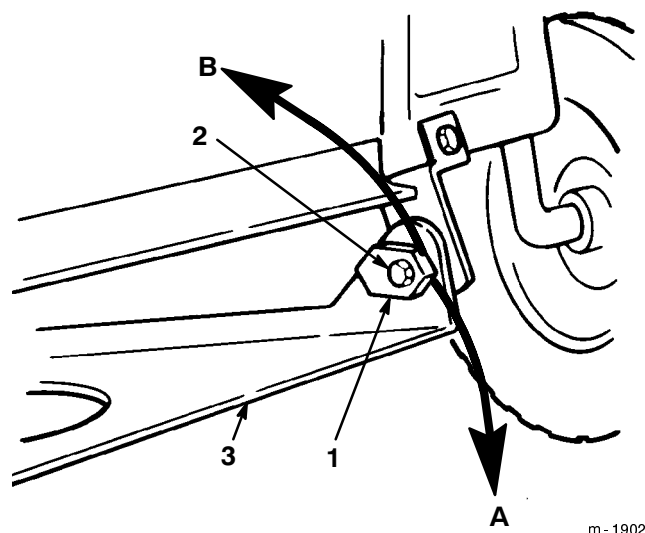

Figure 48
8. Adjust the front-to-rear slope by rotating the special slope adjusting nuts on both sides of the mower pivot mount (Fig. 48).
9. Using a 1" wrench or socket slowly rotate the left side slope adjusting nut down to raise the front of the mower and up to lower it (Fig. 48). Rotate the slope adjusting nut until the front of the mower is 1/4" to 5/8" (6 mm to 16 mm) lower than the rear of the mower.